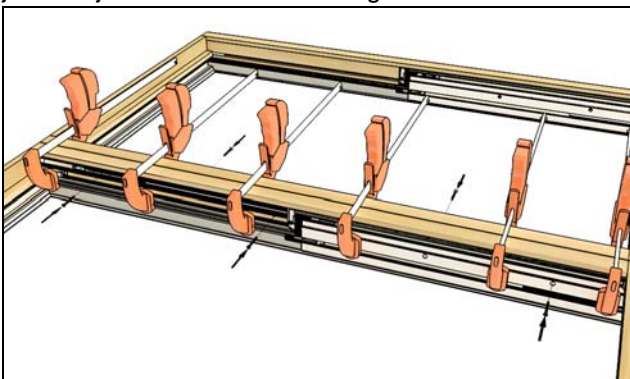

Figure 5
6. Drive #8 x 1 1/4" screw through pre-drilled holes alternating jambs, including additional screw above jamb adjustment screw. See Figure 5.